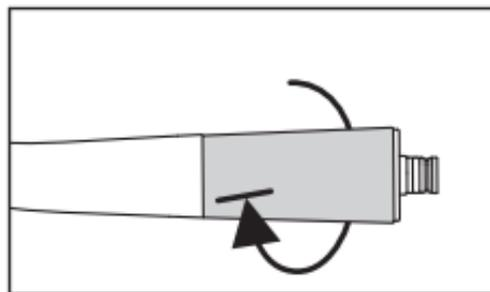

Fig. 39
- 4 Firmly tighten the taper ring (Fig. 39).